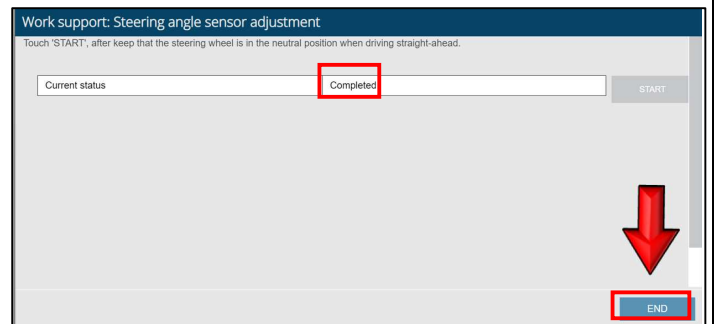

Figure 31
- Wait a few seconds for the adjustment to complete (Figure 31)